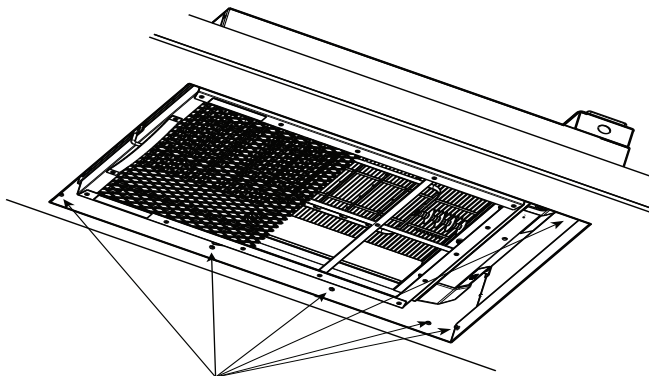

Fig. 7 – Secure with Inner Mounting Screws
9. Finish mounting with twelve 1/4" wood screws through holes on all four sides of the cabinet from inside of the unit into the trusses and blocks (Fig. 7).